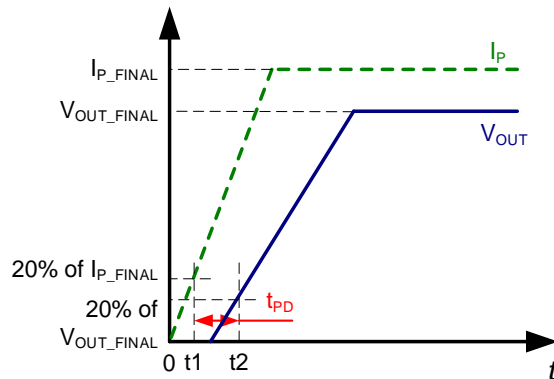

Figure 5: Propagation Delay (t_{PD})
2. t_2 : V_{OUT} reaches 20% of its final value, as it corresponds to the applied primary current (see Figure 5).